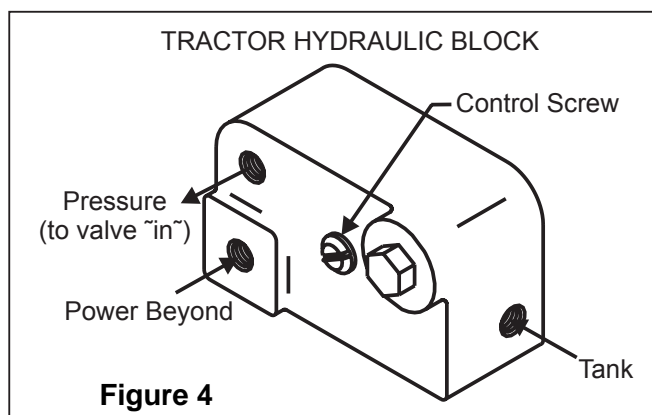

Figure 4
1. Install 3/8 x 44" hose (28) into tank port of valve (1). Install 3/8 x 48" hoses (27) into power beyond and pressure ports of valve (1). Mark opposite ends of each hose, identifying it as tank, pressure, or power beyond hose.
2. Slide 32" hose sleeve (30) over tank hose (28) and slide 36" hose sleeves (29) over power beyond and pressure hoses (27). Secure sleeves over hose crimps at valve with plastic tie straps (33).
3. Remove plugs from pressure, tank, and power beyond ports of tractor hydraulic block and install 3/8 x 9/16 straight adapter fittings (40) into all three ports. Install 9/16 x 9/16 x 90° elbow fittings (39) onto 3/8 x 9/16 straight fittings (40).
4. Connect power beyond hose (27) to elbow (31) in power beyond port of tractor hydraulic block, connect tank hose (28) to elbow (31) in tank port of tractor hydraulic block, and connect pressure hose (27) to elbow (39) in pressure port of tractor hydraulic block. (See Figure 4.)